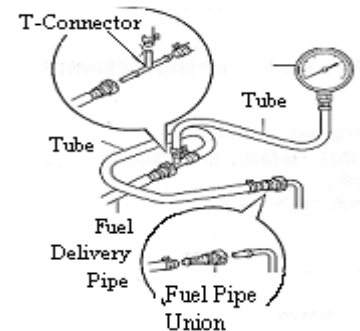

Figure 92
- (c) Install pressure gage from the fuel delivery pipe. See (Figure 92).